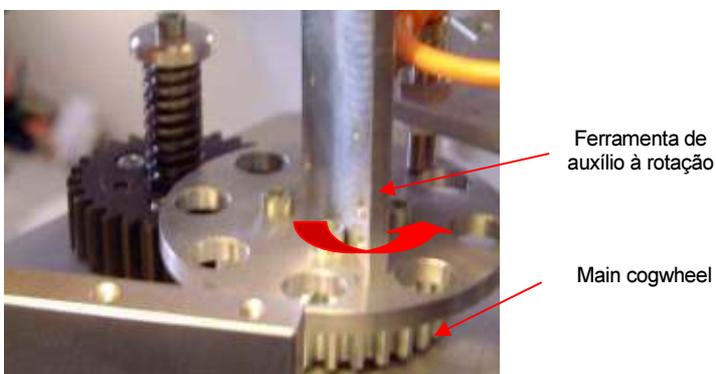

Figure 30– Extraction head manual movement
4. Rotate progressively the main cogwheel with a proper tool, like shown in figure 30, in order to make slight ascendant movements of the extraction head. The extraction head ascendant movement will cause a similar force in the calibrated load cell and the extraction head load cell;